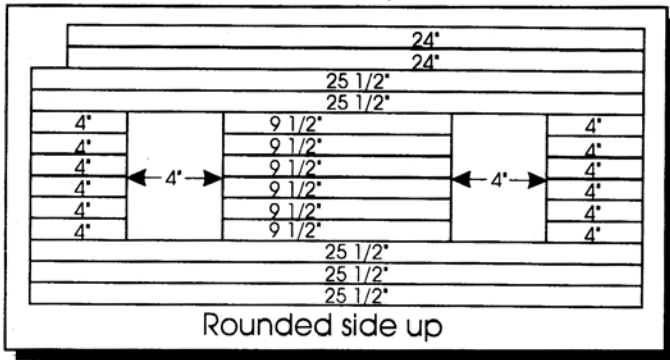

Figure 8- Front Roof
- a. Glue five 25 1/2", two 24" six 9 1/2" and twelve 4" pieces together. See Figure 8.